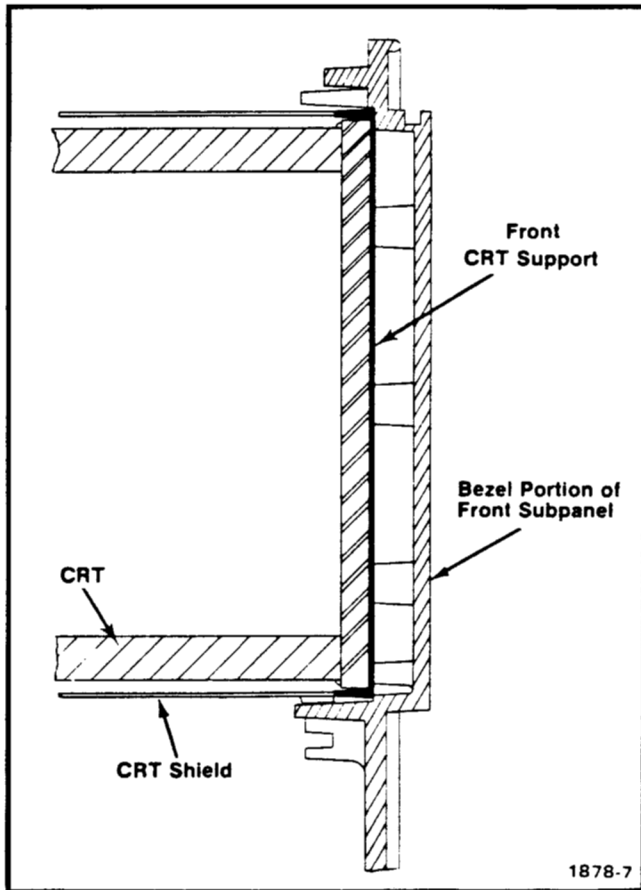

Fig. 5-2. Cross sectional view showing placement position of front crt support, crt shield and crt.
1. Install the (spacer) front crt support (13) into the bezel opening of the front subpanel (14).
2. Install the crt into the crt shield, then install the assembly into the appropriate area of the oscilloscope. Be careful not to bend any of the protruding connector pins. Place the crt shield (14) up against the (spacer) front crt support (13) and the crt into the front crt support (13), see Fig. 5-2. Install the crt socket (12), then hold the assembly in position and install the rear panel (11) with enough screws to hold the crt assembly in place.
4. Install the (crt filter) spring (15) in the groove between the bottom front bezel portion of the front subpanel with the spring ends down. Install the implosion shield/filter (16) into the front bezel portion of the front subpanel by compressing the spring (15) and pushing in.